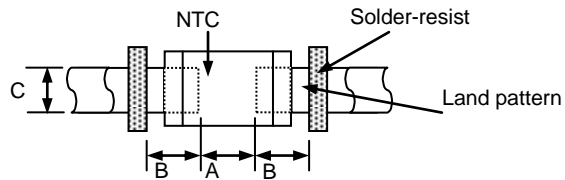

Fig. 3-2
2) Recommended PCB pattern for reflow soldering: See Fig.3-2 and Table 3-1.